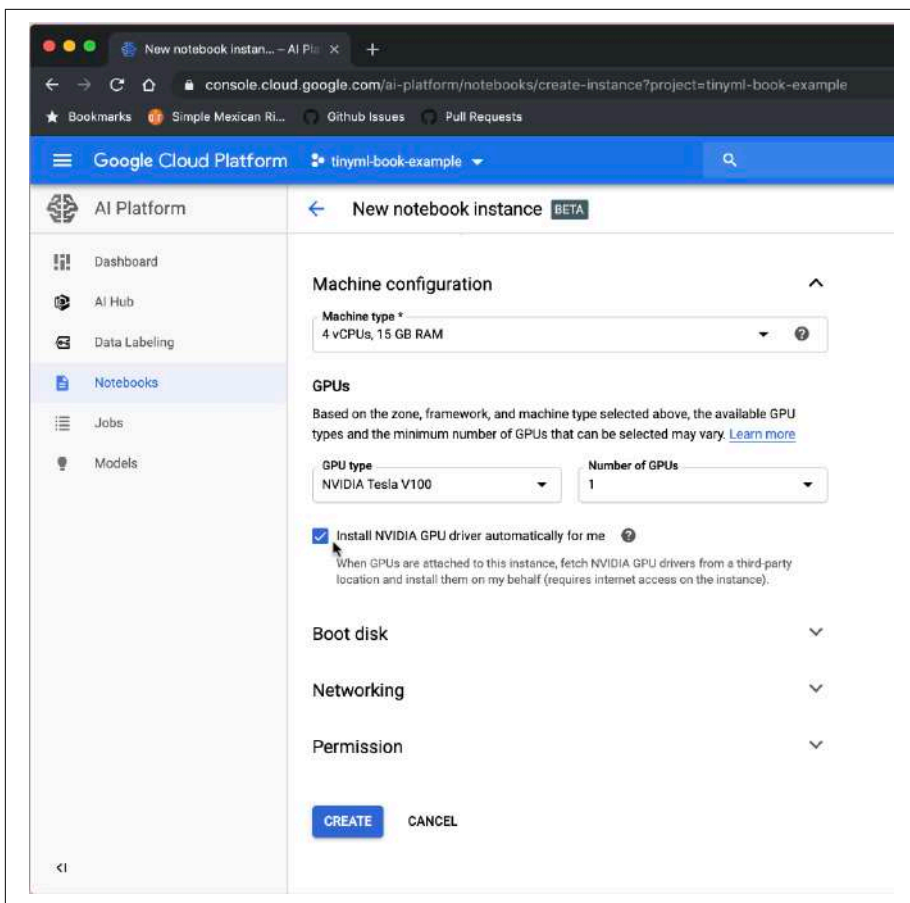

Figure 10-7. The GPU driver interface
10. It makes life easier to have the GPU drivers installed automatically, so make sure you select that option, as demonstrated in Figure 10-7.